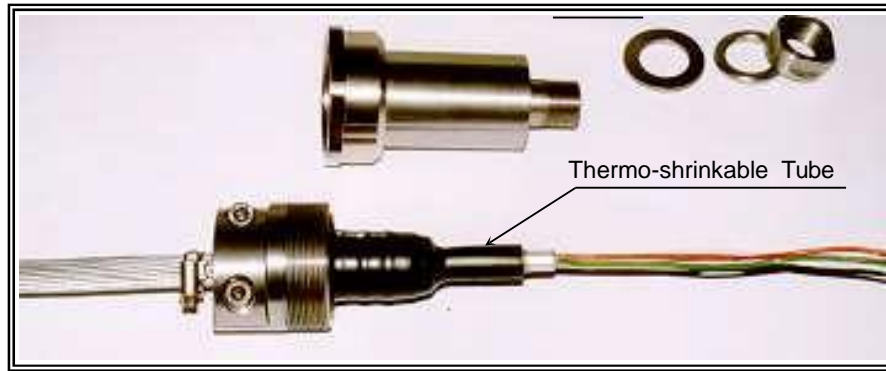

Fig. 6
- Cover the Central Tube (AL/Steel) with aluminum sheet and put the thermo-shrinkable tube with heating gun. Or lamp, like Figure 6.